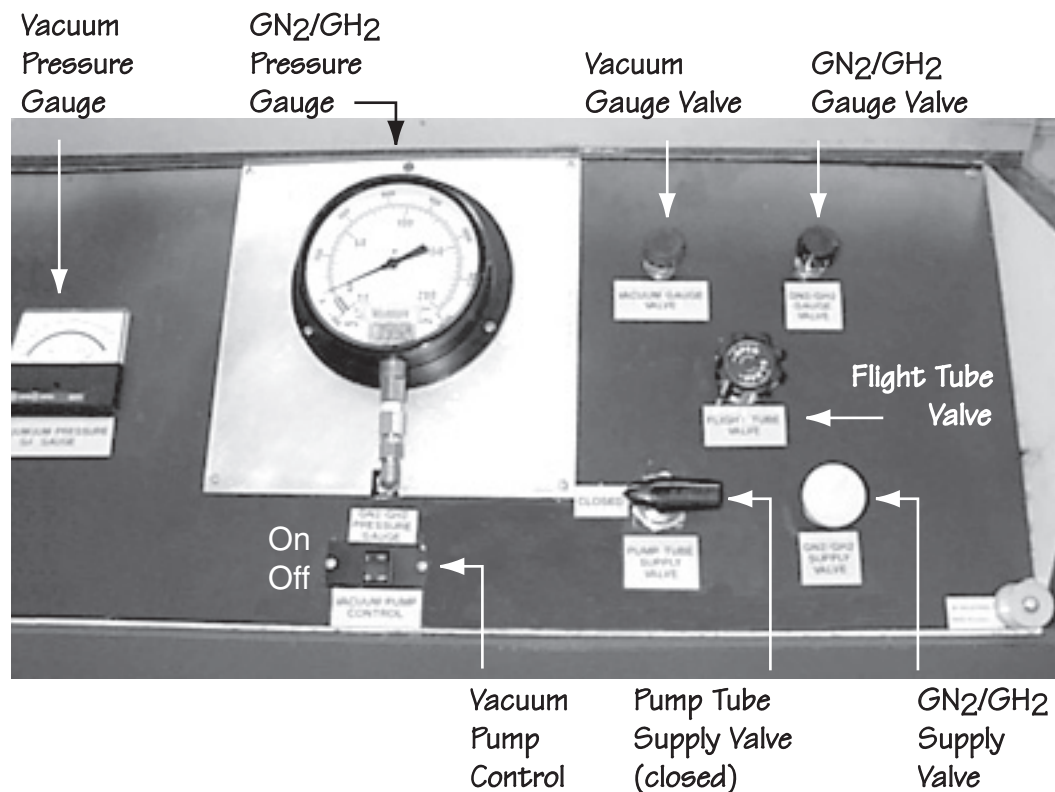

Figure 4.1-22.
**4.1.17.3.** On the gun control panel (Figure 4.1-22), **open** the **GN2/GH2 Supply Valve** and the **GN2/GH2 Gauge Valve**.
4.1.18. At the control panel, **turn on** the vacuum pump by placing the **Vacuum Pump Control** toggle switch in the **ON** position (Figure 4.1-22).
4.1.19. On the control panel, **open** the **Flight Tube Valve** (Figure 4.1-22). **Evacuate** the target chamber and flight tube until the **Vacuum Pressure Gauge** reads 15 torr.